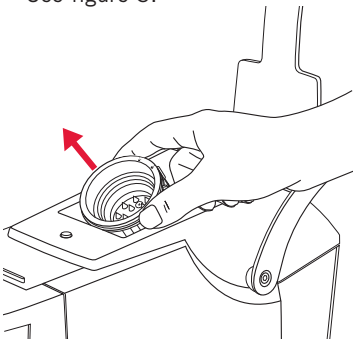

Figure 3
3. Lift the capsule holder out of the machine. See figure 3.